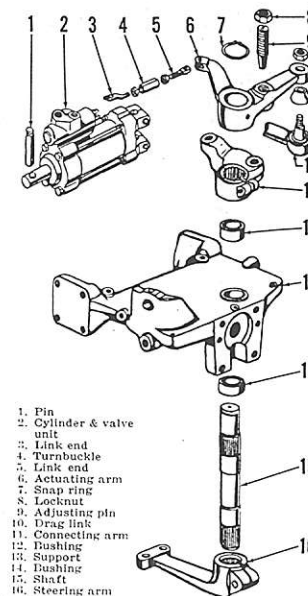

Fig. 34—Exploded view of front support, steering pedestal, steering cylinder and associated parts used on Model MF165.
34. Refer to Fig. 34 for an exploded view of power steering pedestal and associated parts. Most service work can be performed without major disassembly of the unit.